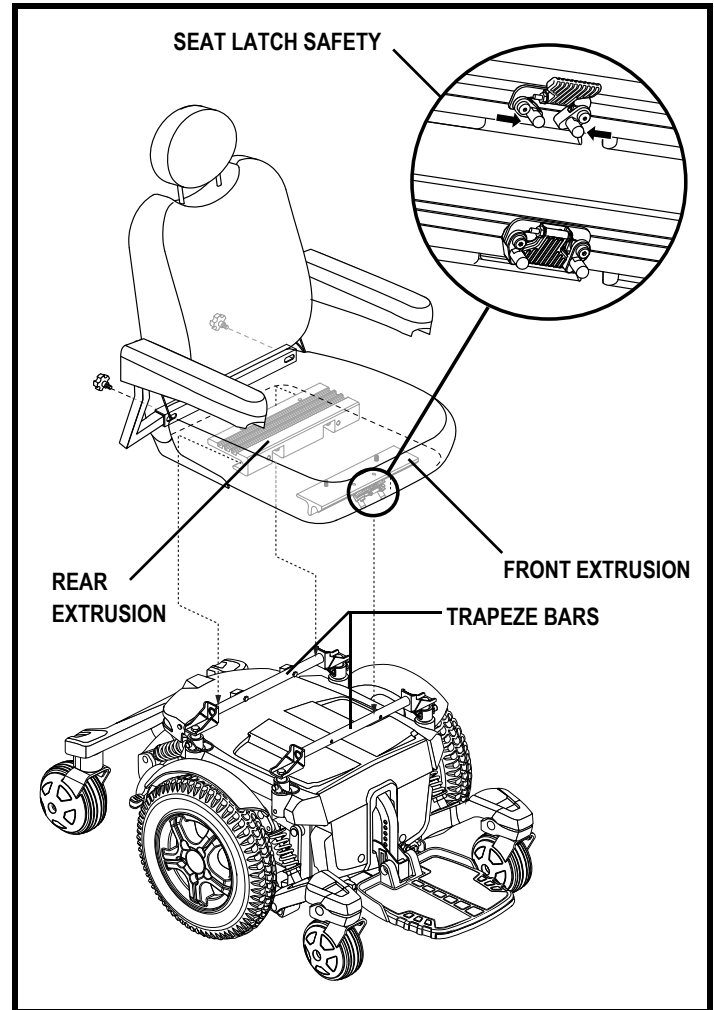

Figure 11. Universal Mounting System and Contour Seat
It may be necessary to install the seat either prior to initial operation or after transporting your power chair. Contour seats are attached to the power base with the Universal Mounting System (UMS). The UMS consists of universal parts that may be attached to the seat, regardless of seat width or seat depth. The two main components are aluminum extrusions mounted to the seat base. These extrusions attach to a pair of trapeze bars that are mounted to the power base. See figure 11.
1. Tilt the seat back and slide the rear extrusion onto the rear trapeze bar. See figure 11.
5. Flip up the seat latch safety. **See figure 11.**